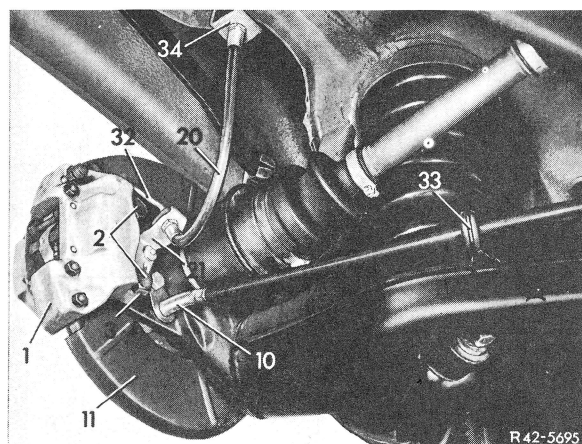

Fig. 3
2 On vehicles with diagonal swing axle with brake line layout version 1 or with starting torque compensation, loosen brake line (32) on caliper, then immediately close brake line and connection on caliper with a rubber plug (Fig. 3 and 5).
**4** Unbend lock plate (3) and unscrew hex. bolts (2). Then remove caliper (Fig. 3, 4 and 5).
5 Position caliper against holder of wheel carrier (4). Then screw hex. bolt (2) into holder using a new lock plate (3) (Fig. 3 to 10), tighten to 90 Nm (9 kpm) and secure.
**6** Screw brake line (32) or brake hose (20) into caliper and tighten (Fig. 3, 4 and 5).